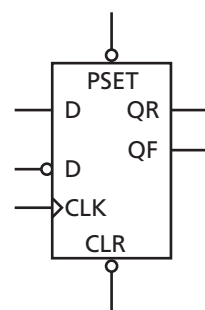

Figure 2-6 • DDR Register
2. Instantiate the DDR\_REG macro (Figure 2-6)